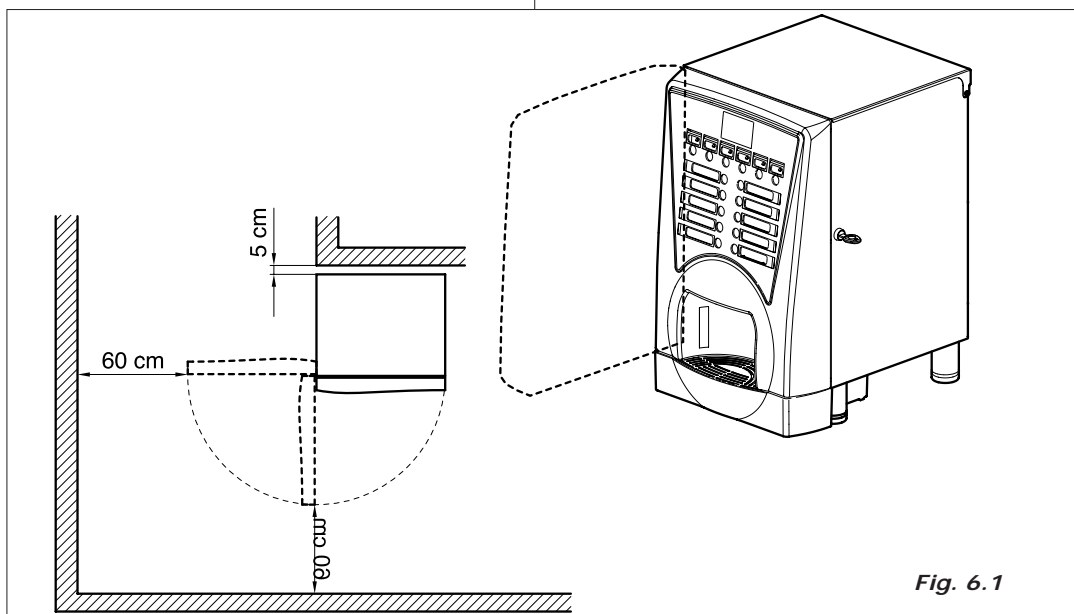

Fig. 6.1
- If positioned near to a wall, there must be a minimum distance from the wall of at least 5 cm. (Fig.6.1) so as to allow a regular ventilation. In no case cover the beverage machine with cloths or similar.
If the installation is made in safety evacuation corridors make sure that with the beverage machine door open there is anyhow sufficient space to pass by (Fig.6.1).